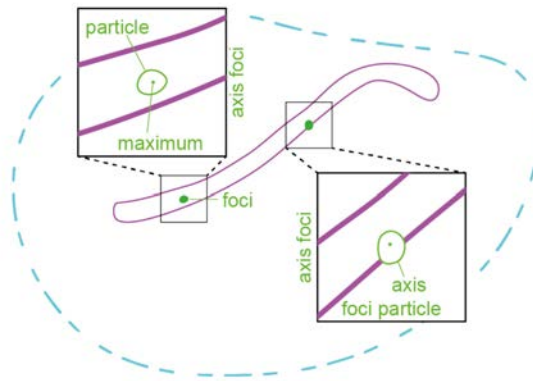

Figure 7.5. Foci are defined by their maxima and outlines (=particles).
The following three steps are used to detect foci in both foci channels. A focus is primarily identified by its maximum intensity (as shown in figure 7.5). The tool also has the ability to analyze the particles associated with the foci.
**STEP 5.** Choose the type of foci you want to consider, whether they are foci along the axis or off-axis foci. The foci of the other type will be excluded from the analysis and not added to the ROI Manager. It's important to note that the position of a focus in relation to the axis is determined by its maximum intensity. If a focus's particle overlaps both the axis and off-axis regions, and its maximum intensity is within the axis region, the particle selection will be referred to as an "axis focus (particle)" (as shown in the lower inset of figure 7.5).